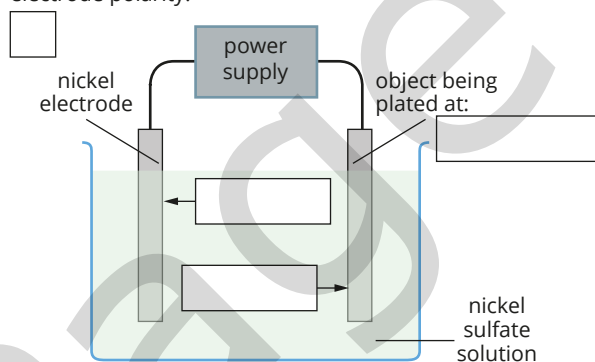

FIGURE 10.2.12 A nickel-plating cell
- Figure 10.2.12 shows a nickel electroplating cell. electrode polarity: